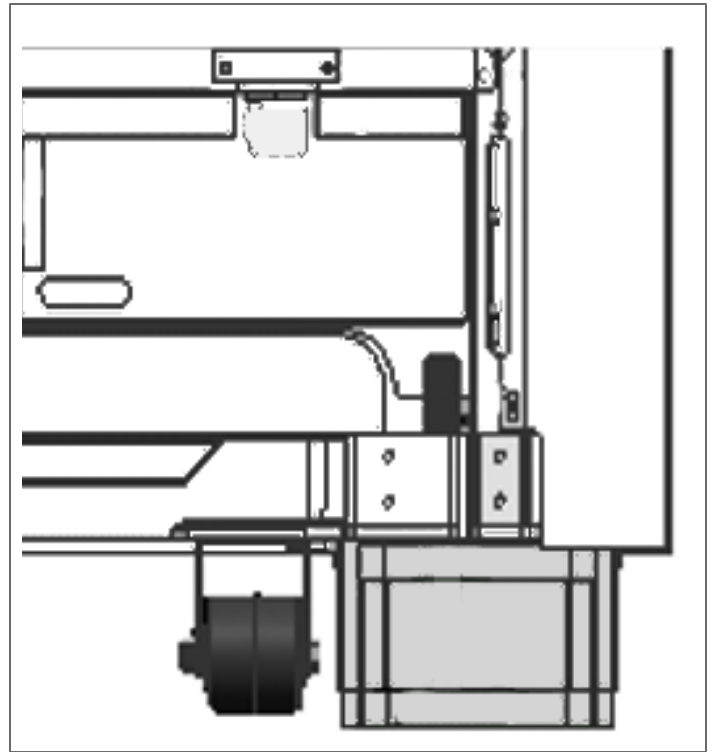

FIGURE 22: LEG COVERS INSTALLED
4. Slide the outer sleeve up. The mating part has dimples (that you cannot see) for which the holes of the larger sleeve should seize. You should feel a definitive click, letting you know that the apparatus has been mounted to the unit (Figure 22).